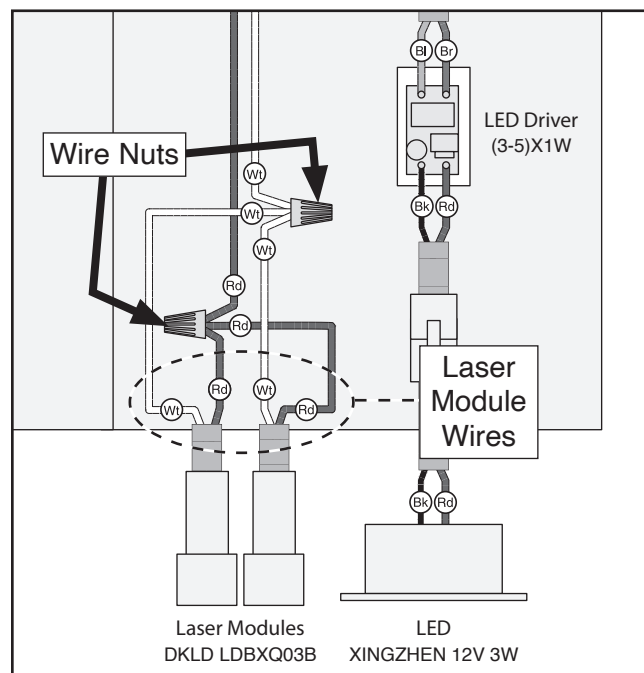

Figure 63. Laser module wiring.
4. Disconnect faulty laser module wires from their wire nut connections (see **Figure 63**), then fully remove laser module from headstock, pulling wires with it.